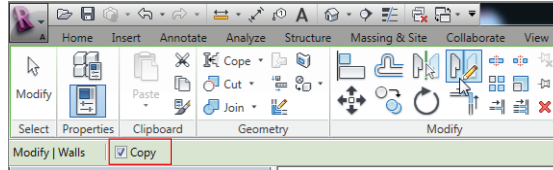

FIGURE 1.25: There are options you must choose for every command in Revit.
4. Make sure the Copy check box is selected (see Figure 1.25).